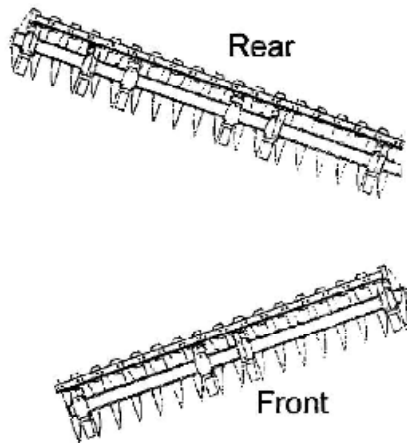

Figure 2 - Positioning Gangs for Assembly
- 3) Position the gangs in a "V" pattern in the middle of the assembly area as shown in Figure 2 with the scraper blades to the rear. The narrow part of the "V" should be to the left with about 2 feet between the gangs.